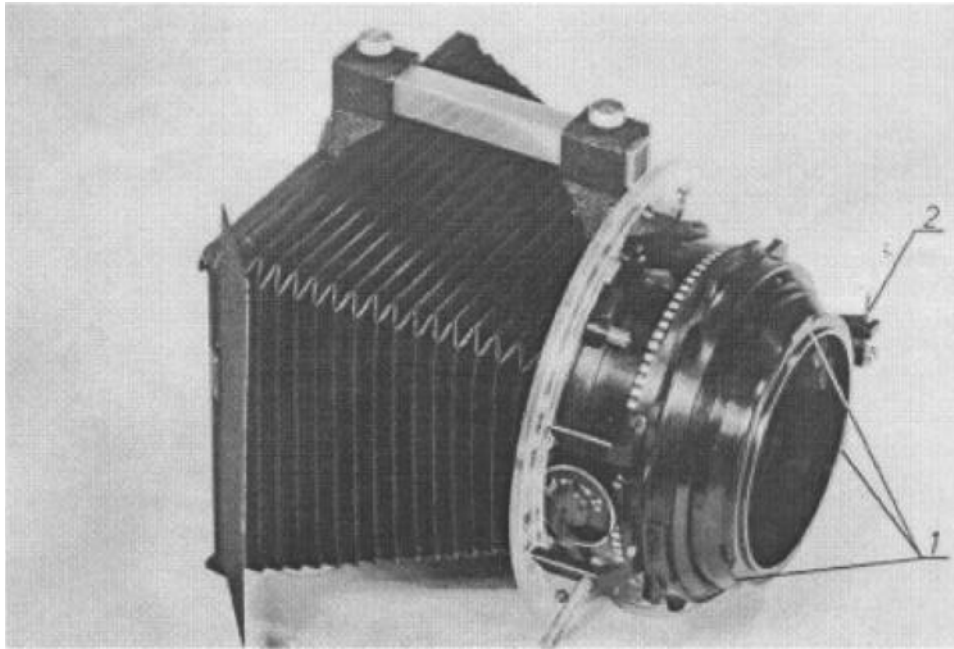

Fig.2
i. Universal Lens Blimp, Fig. 2, with the three clamping lugs (Fig. 2/1) in the three grooves on the camera (as for zoom lenses) then turn to right until the lens blimp engages the latch (Fig. 2/2) The matte box is mounted exactly as on zoom lenses.